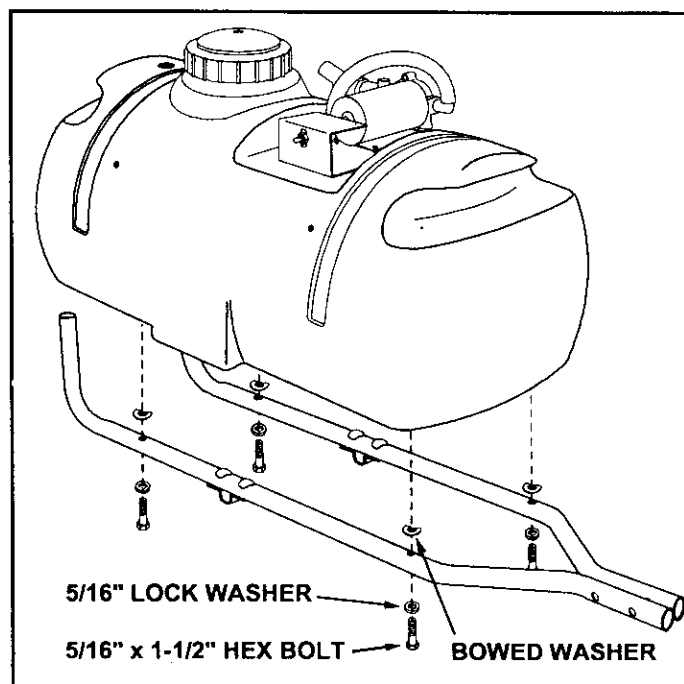

FIGURE 2
- Assemble the hitch tubes to the tank using four 5/16" x 1-1/2" hex bolts, 5/16" lock washers and bowed washers. **Do not tighten yet.** See figure 2.
- **Tighten** the four bolts which fasten the hitch tubes to the bottom of the tank. See figure 2.